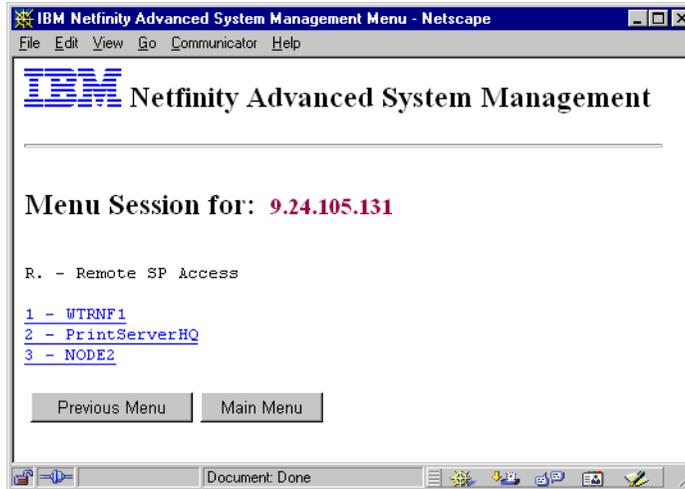

Figure 218. Accessible Devices on Your RS-485 Network
5. Figure 218 appears, giving you a selection of all ASM devices on your RS-485 network: